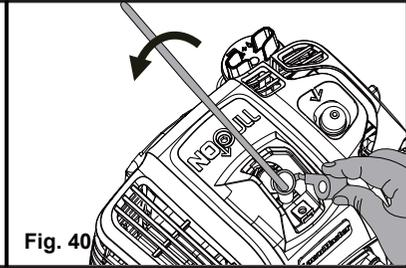

Fig. 40
- Remove the spark plug cap. Fully cover the spark plug using the provided sleeve. Rotate the sleeve counter clockwise to remove the spark plug (Fig. 40).